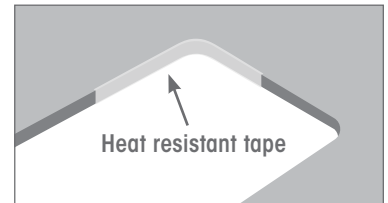

Fig.8
- Ensure the aluminium heat tape extends up the cutout edge and over the surface of the benchtop enough to run past the outside edge of the cooktop flange. (see Fig. 8)